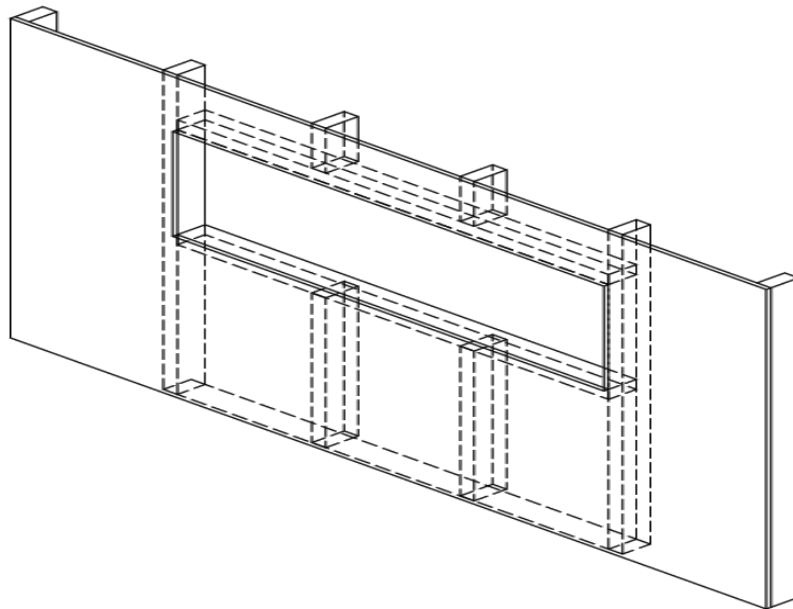

Figure 6
1. Prepare a frame opening according to the dimension of the fire unit. Kindly refer to the chart. *Figure 6*